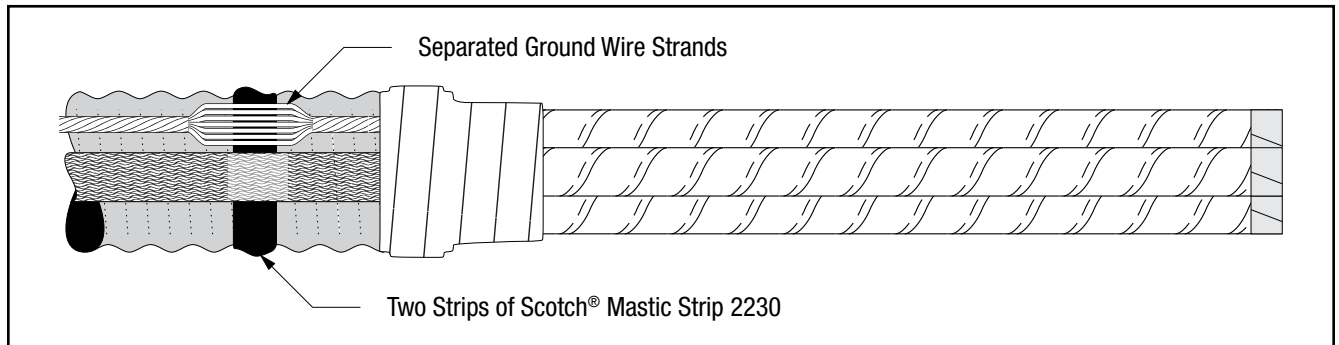

Figure 8
- 3.8 Separate ground wire strands over strips of Scotch® Mastic Strip 2230 as shown (*Figure 8*).